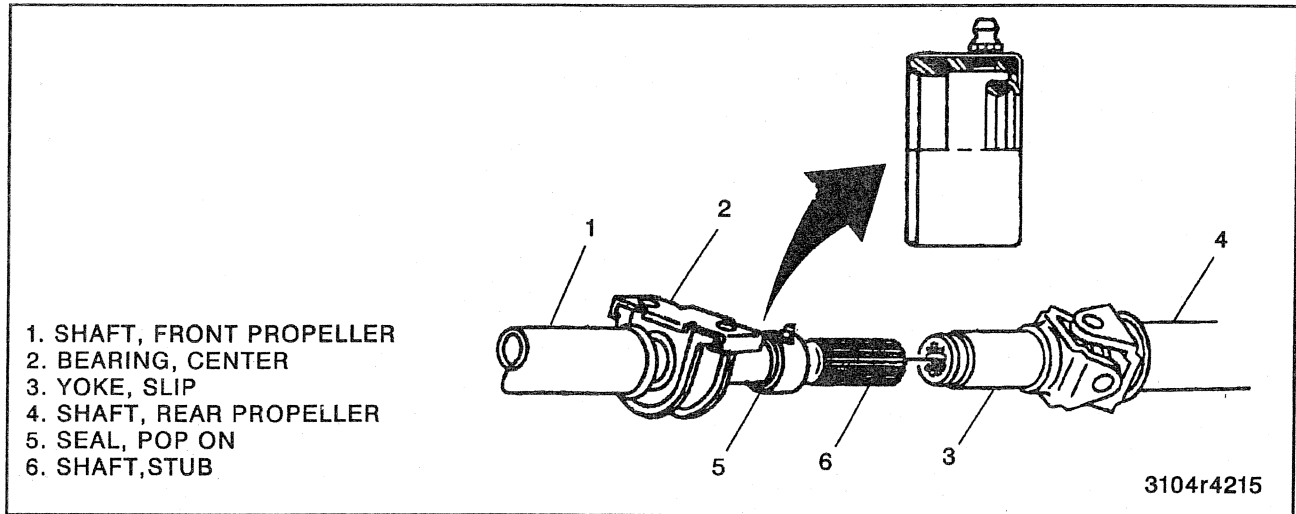

Figure 10—Two-Piece Propeller Shaft (Dana)
- For two-piece Dana propeller shaft, pull the stub shaft out of the slip yoke. (figure 10).